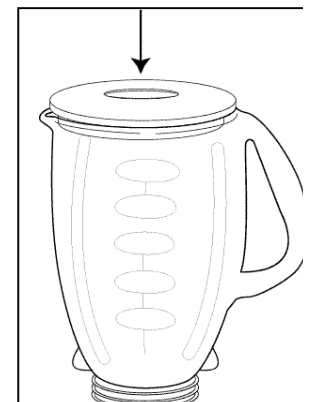

FIGURE 7
- Do not remove the lid while in use. Remove feeder cap to add smaller ingredients. (Figure 7)